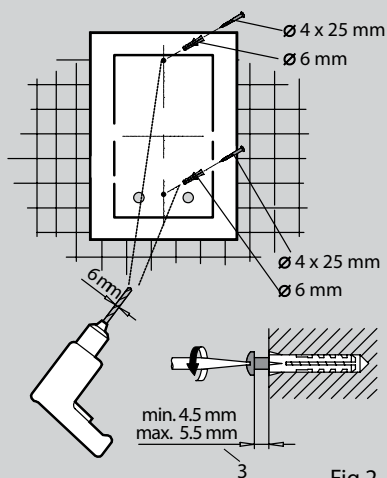

Fig 2
3. Depth for mounting screw (Fig 2)
- Insert the wall plugs and screw make sure insertion depth is correct (Fig 2 number 3).